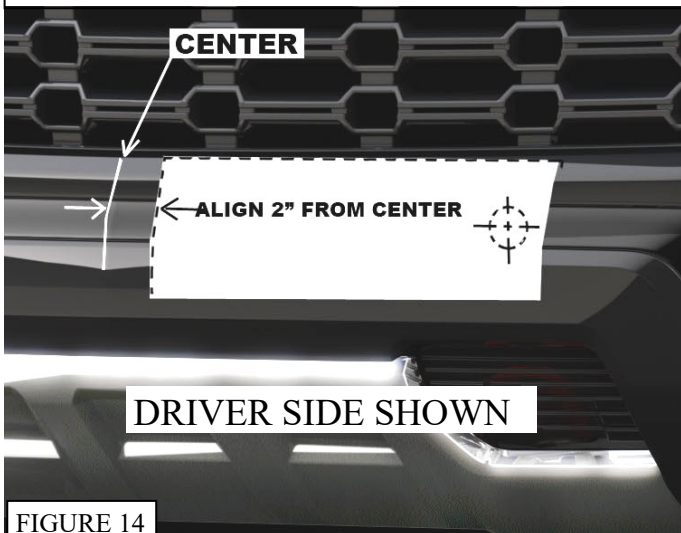

FIGURE 14
16. Using the provided templates (25 & 26), cut at the dotted lines and place the indicated side at 2" from the center of the fascia and the top edge at the lower edge of the grill, carefully drill a 2" hole at each side of the fascia. **(Figure 14)** Carefully clean the hole edges.